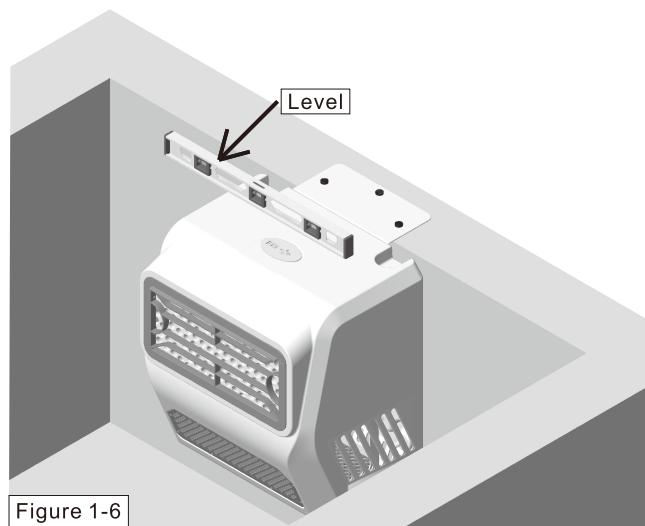

Figure 1-6
5.As shown in Figure 1-6, using a level to measure whether the top surface of the unit is horizontal after the supporting screws are close to the pool wall.